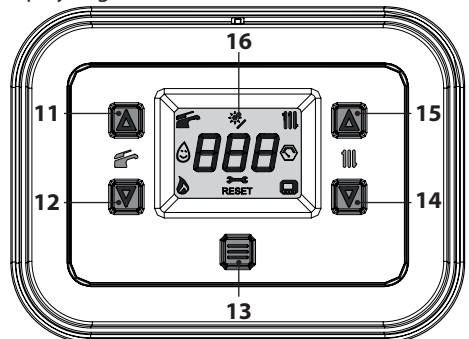

Figure 2.3
- Press button 13 for 1 seconds until both symbols  and  appear on the display (Figure 2.3).